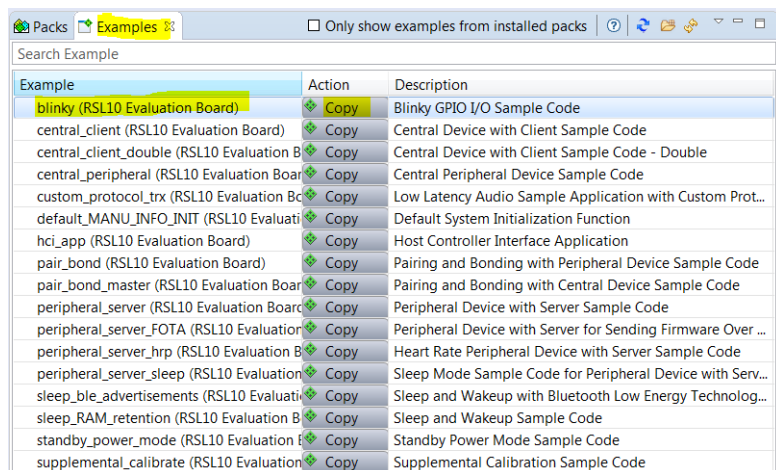

Figure 20. Pack Manager Perspective: Examples Tab
2. Choose the example project called *blinky*, and click the **Copy** button to import it into your workspace (see Figure 20 on page 21). Choose a destination folder for a copy of the sample code.